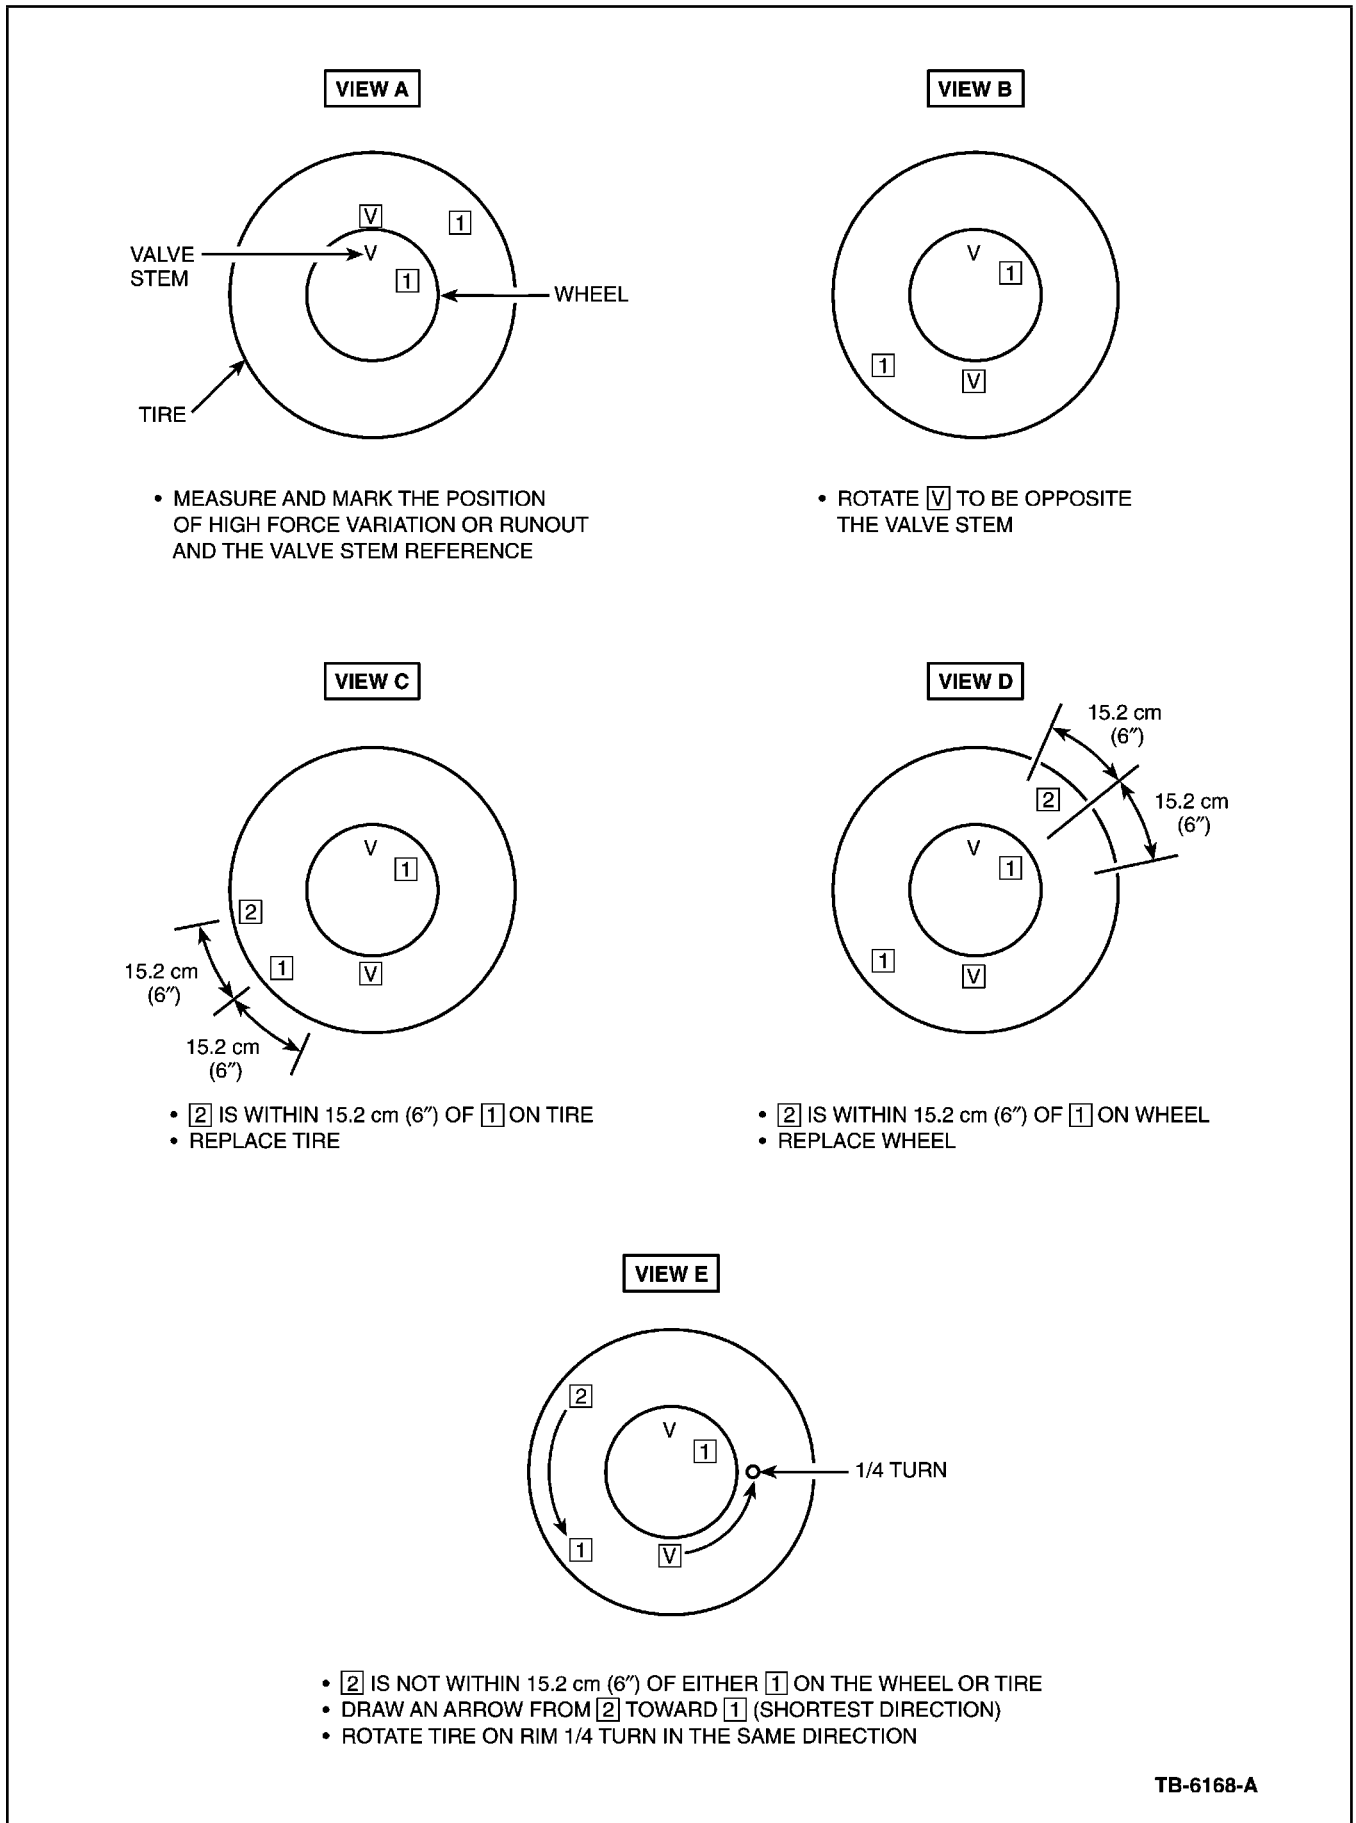

Figure 1 - Article 00-21-9
- a. If you have a balancer with road force variation capability, measure and mark the high point location of assembly radial force variation as (1). If force variation is 27 kg (60 lbs.) or greater, perform the indexing procedure in Steps 6-10. If force variation is less than 27 kg (60 lbs.), proceed to Step 12.
- b. If you have a conventional balancer without road force variation capability, check tire radial runout at the center tread. Mark the high point location as (1). If radial runout exceeds 1.27mm (0.050"), the assembly must be match-mounted as described in Steps 6-10. If radial runout is below 1.27mm (0.050"), proceed to Step 12.
6. Refer to Figure 1 (View A) and place the following marks on the wheel/tire assembly from the first measurement taken in Step 5.
- Mark the TIRE with a (1) in the 1st high point location measured.
- Mark the WHEEL with a (1) in the 1st high point location measured.
- Mark the valve stem location on the tire as (V).
7. Break the assembly down and rotate the tire so the valve reference mark (V) is opposite the valve stem (Figure 1, View B).
8. Re-inflate the tire and measure the force variation or assembly runout depending on the capability of your equipment. Record your reading and mark the second high point location on the tire as (2). If the force variation or runout is reduced below the acceptable guidelines indicated in Step 5, proceed to Step 12. If not, proceed to Steps 9-11.
9. If (2) on the tire is within 15.2 cm (6") of (1) on the tire and is still outside the guidelines, replace the tire (Figure 1, View C).
10. If (2) on the tire is within 15.2 cm (6") of (1) on the wheel, replace the wheel (Figure 1, View D).
11. If (2) is not within 15.2 cm (6") of either (1) on the tire or wheel, then draw an arrow from (2) toward (1) (in the shortest direction, see Figure 1, View E). Rotate tire on the rim 90 degrees (1/4 turn) in this direction using (V) on the tire as your reference point. This will normally reduce runout to an acceptable level. If force variation or runout is not reduced to an acceptable level, then the tire should be replaced.